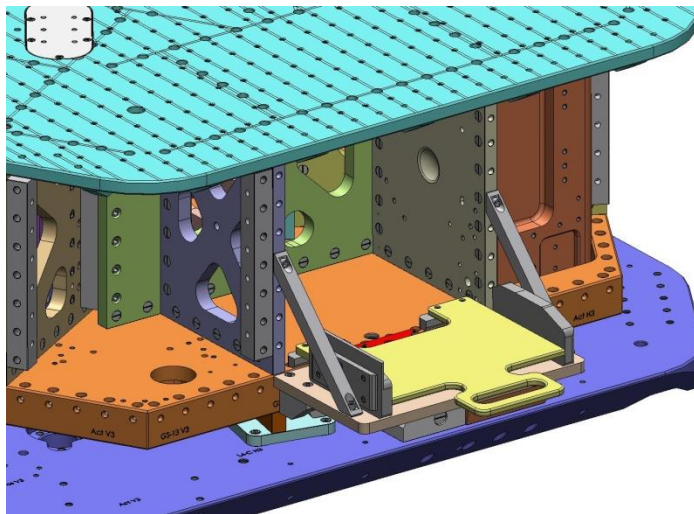

Figure 4.127. Install Sled Tool on Install Shelf, ready for use.
- Tighten screws connecting the (2) **Braces** to **Shelf Plate** (D0900336).
- Place the **GS-13 Horizontal Install Tool** (D071496) on the **GS-13 Install Shelf** (see Figure 4.127).